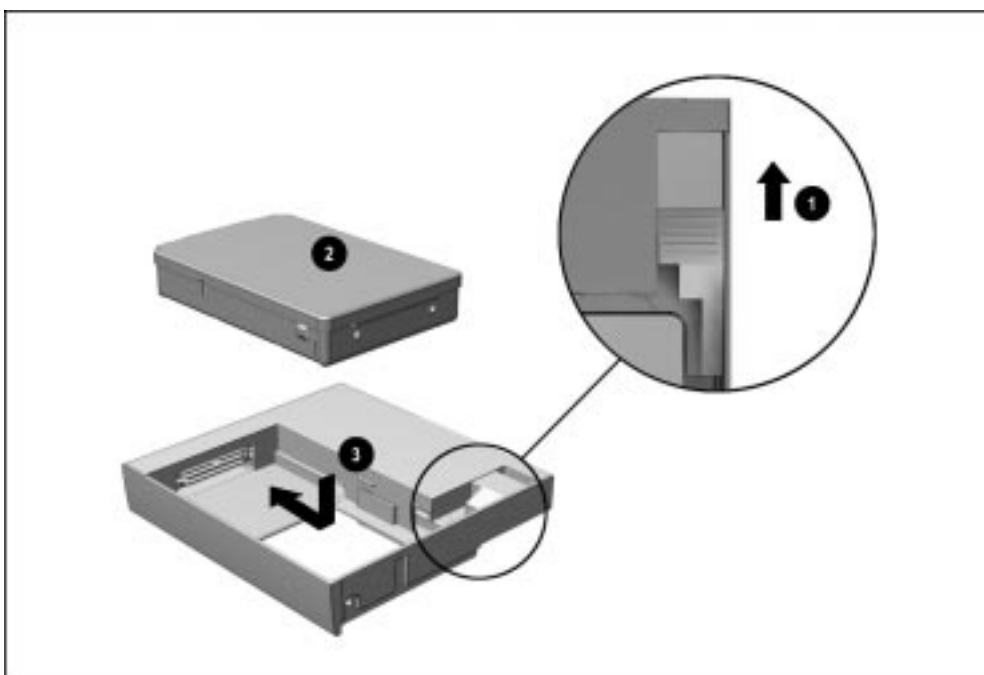

Figure 5-19. Inserting a Hard Drive into an Armada 7000 Hard Drive MultiBay Adapter
2. Push back the slide tab ❶ on the Armada 7000 Hard Drive MultiBay Adapter (Figure 5-19).
3. Lower the hard drive ❷ into the adapter.
4. Slide the hard drive toward the connector ❸ in the adapter until the connectors are seated.